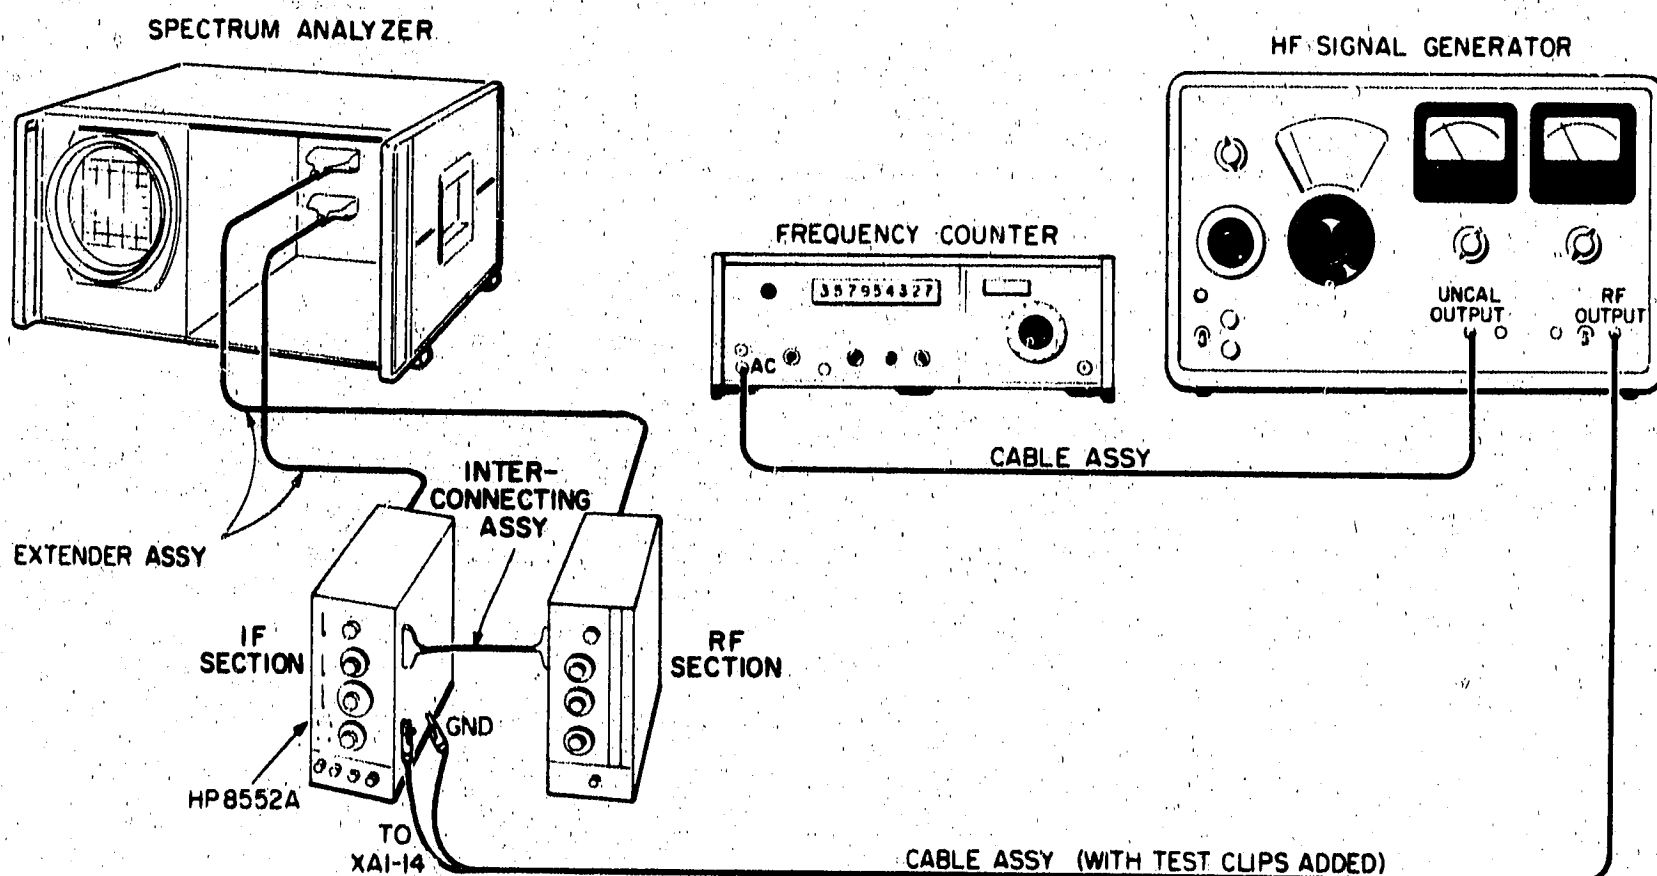

Figure 5-9. LC Filter Adjustment Test Setup.
1. Connect the test setup in Figure 5-9 and make the following control settings: